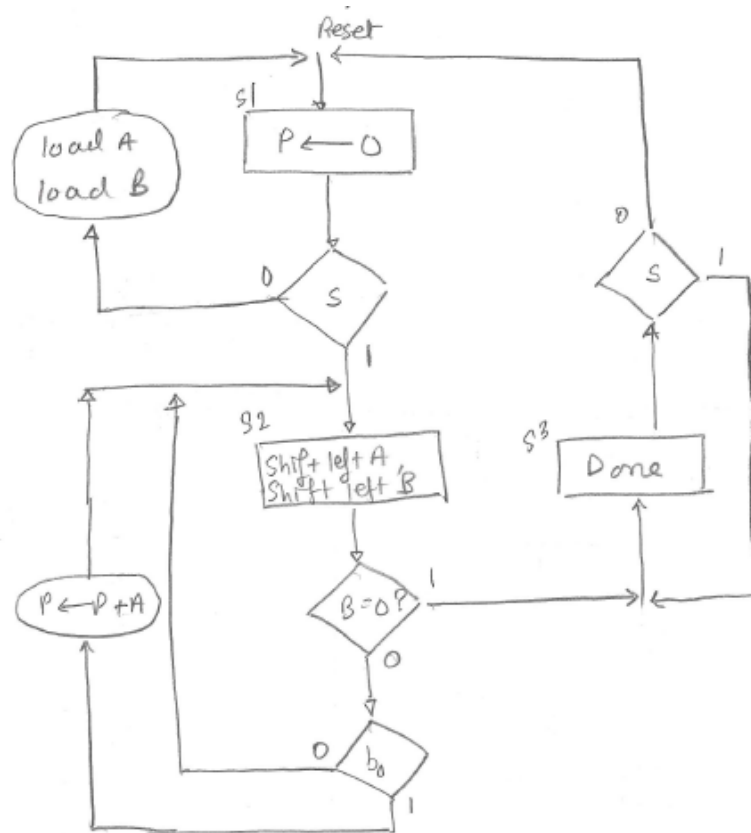
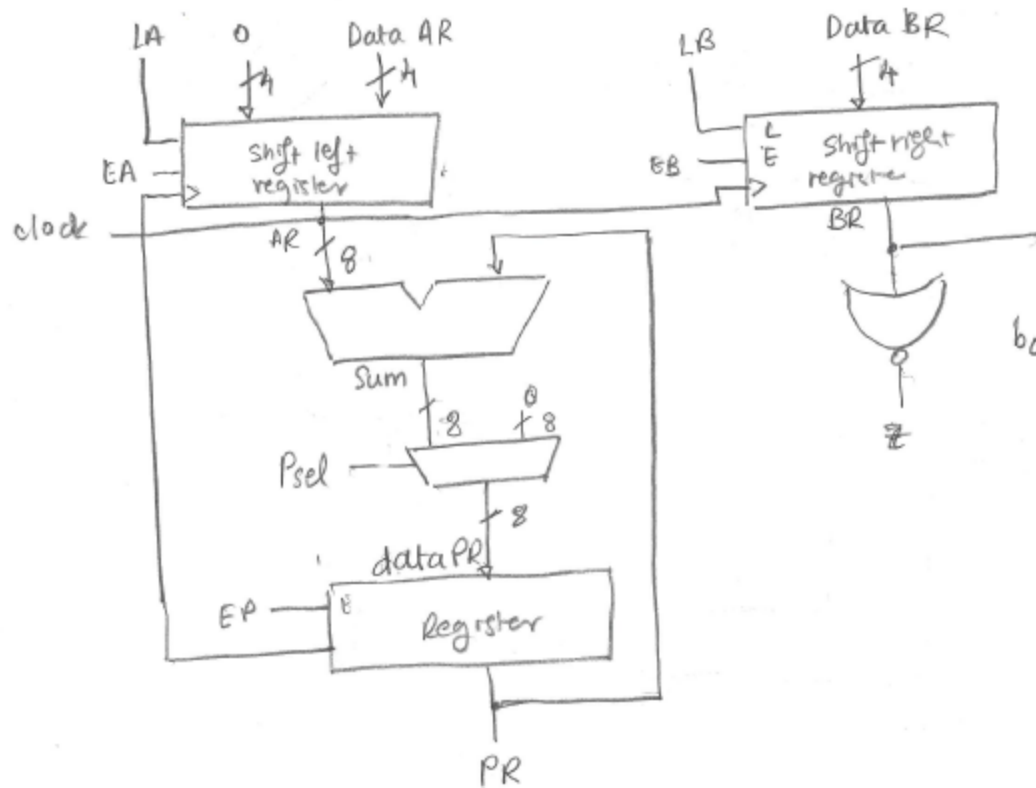
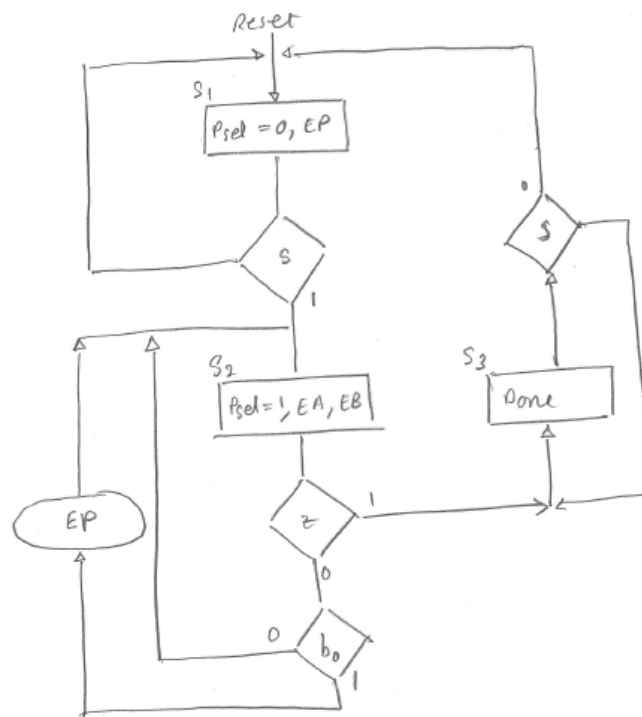

Figure 6 An ASM chart for the multiplier
Figure 7 Datapath circuit for the multiplier.
Figure 8 An ASM chart for the multiplier control unit.
The ASM chart for the 4 x 4 Multiplier is presented in **Figure 6**. The datapath circuit for the multiplier is presented in **Figure 7**. The ASM chart for the multiplier control unit is presented in **Figure 8**. The multiplicand is 4-bit wide (BR) and the multiplier (AR) is 4-bit wide, thus the product will need an 8-bit register (double width register). The multiplier is placed in the least significant half of the product register (PR), and the most significant half of the PR is cleared. Since there are 4 bits in a single width register, the following steps were performed 4 times:
1. If the least significant bit (LSB) of the product register (PR) contains a 1, the multiplicand is added to the most significant half